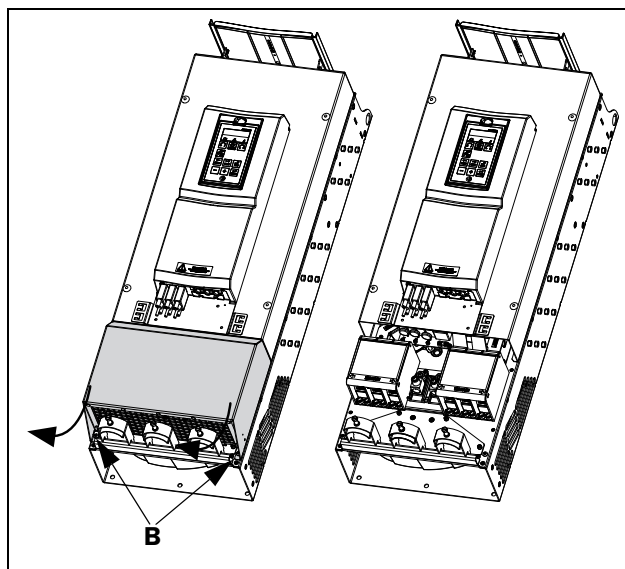

Fig. 23 Loosen the two screws and remove the lower cover (principle drawing)
- Loosen the two screws B (see Fig. 23).